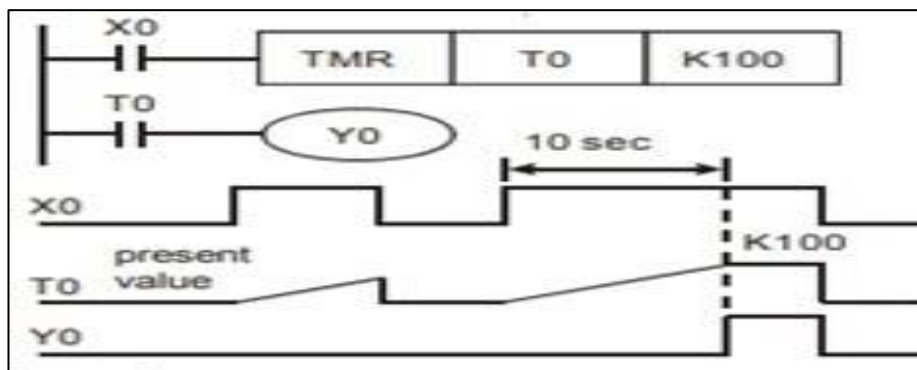

Fig.5 PLC Ladder Diagram for OFF Delay Timer
1. Analyze the results of OFF delay timer operation for fig.5 using ladder diagram in terms of concepts.